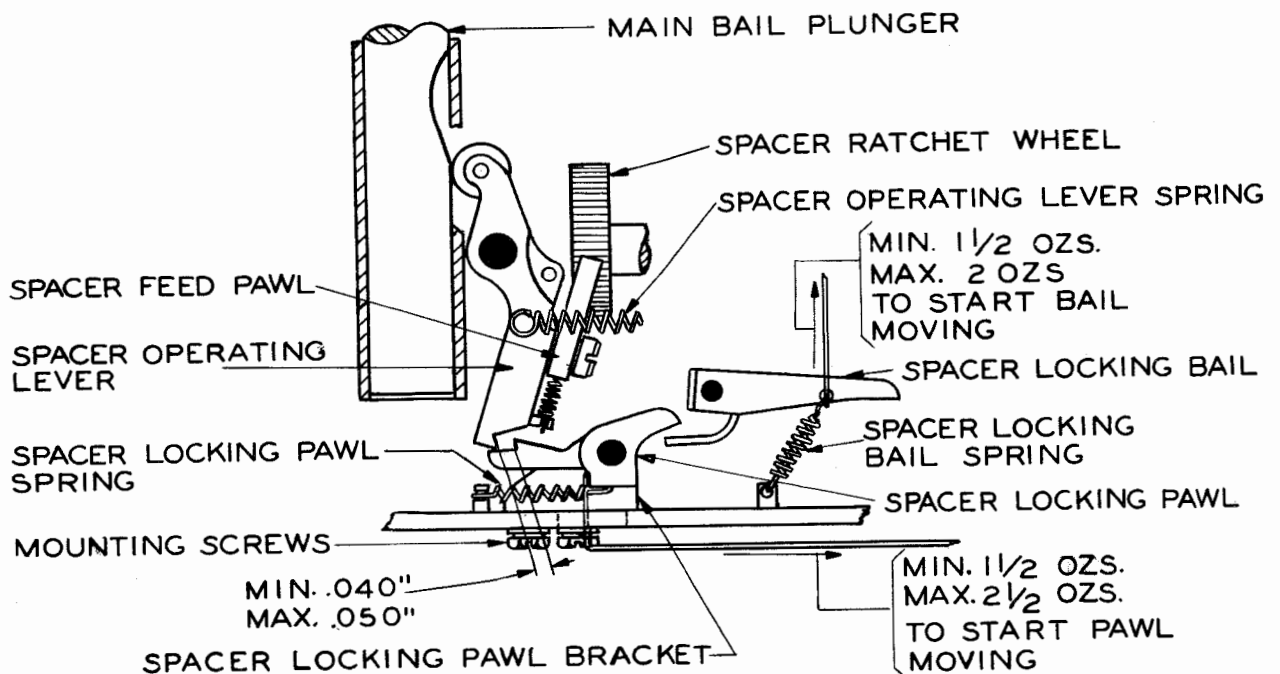

Figure 6
Note: For typing units equipped with the TP84641 mechanism for printing and spacing on upper-case Blank, see the section covering requirements and adjustments for 14 teletypewriter auxiliary features for the spacer locking bail spring tension requirement. (See Figure 6.)
2.22 Spacer Locking Pawl Bracket: With the FIGS combination selected and the main shaft rotated until the space operating lever roller is on the high part of the main-ball plunger, the shoulder on the spacer locking pawl shall clear the notched part of the spacer operating lever by minimum 0.040 inch, maximum 0.050 inch. (See Figure 6.)
2.24 Spacer Locking Pawl Spring tension shall be minimum 1-1/2 ounces, maximum 2-1/2 ounces when the Blank combination is set up and the main shaft is rotated until the main bail is in its extreme upper position. (See Figure 6.)